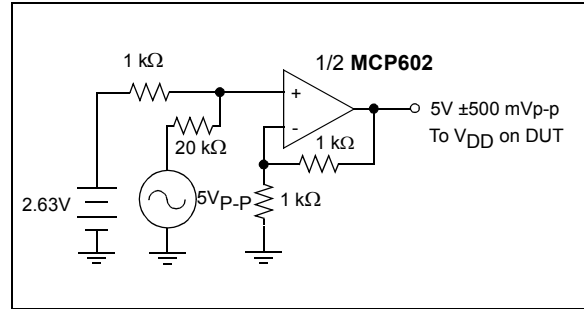

FIGURE 1-4: Power Supply Sensitivity Test Circuit (PSRR).
- 4: $V_{DD} = 5V$ DC ± 500 mV_{P-P} @ 1 kHz, see test circuit Figure 1-4.
Note 4: $V_{DD} = 5V$ DC $\pm 500 \text{ mV}_{P-P}$ @ 1 kHz , see test circuit Figure 1-4.
- 4: $V_{DD} = 5V DC \pm 500 mV_{P-P} @ 1 kHz$, see test circuit Figure 1-4.